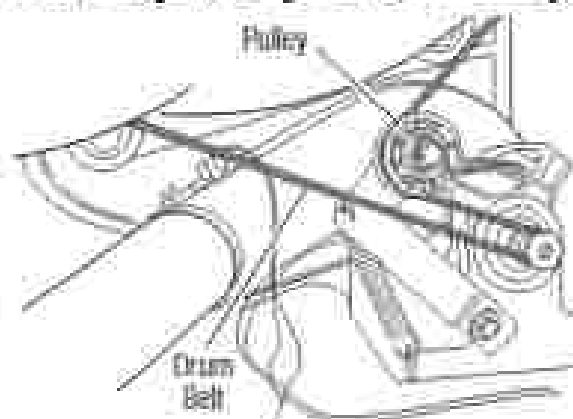

Figure 1 - Slowly remove drum belt
7. Check the drive motor and belt switch (gas dryer only). Slowly remove the drum belt from the spring-loaded belt switch pulley, gently letting the pulley down. See Figure 1.